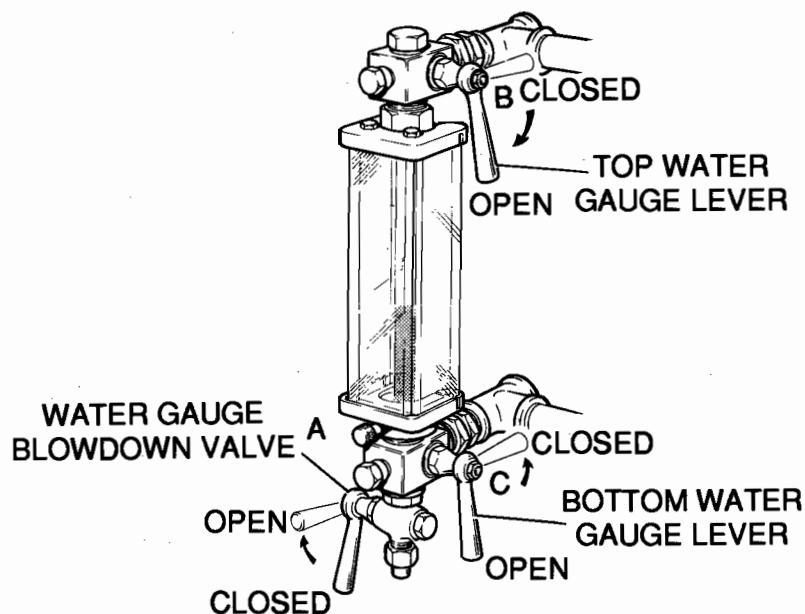

FIG. 10 BLOWDOWN SEQUENCE
3.10 Boiler Blowdown Procedure (Fig. 10)
- (a) Using the special tee handle wrench, remove the hand hole assembly as shown on Fig. 10.
- (3) Clean the sight glass. If any leakage is evident, renew the faulty gasket.